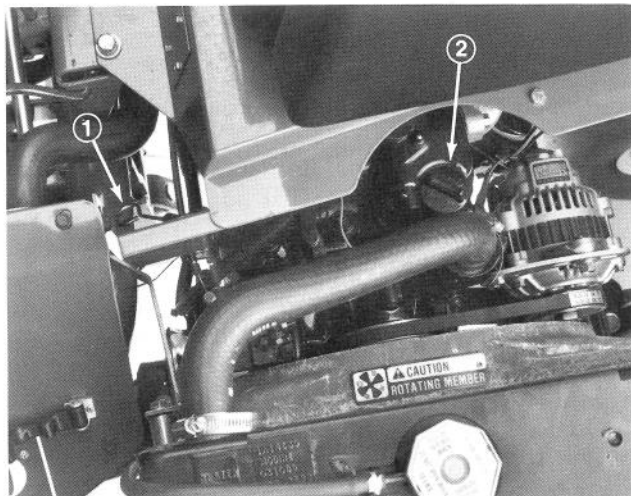

Figure 12
1. Move the machine to a level surface, stop engine and set parking brake. Unlatch and open the hood (Fig. 12).
1. Move the machine to a level surface, stop engine and set parking brake. Unlatch and open the engine hood (Fig. 12).
2. Carefully remove radiator cap and expansion tank cap (Fig. 12).
3. Inspect coolant level. The radiator coolant level should be to 1 inch (25 mm) below the filler neck and the expansion tank level midway between the minimum and maximum marks on its side (Fig. 12).